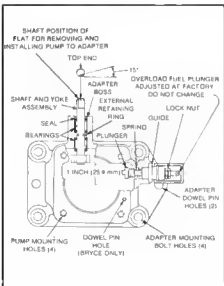

FIGURE 3-47 INJECTION PUMP ADAPTER ASSEMBLY
6. Position fuel control shaft and yoke as shown in Figure 3-47. Then, lift pump off of adapter assembly.